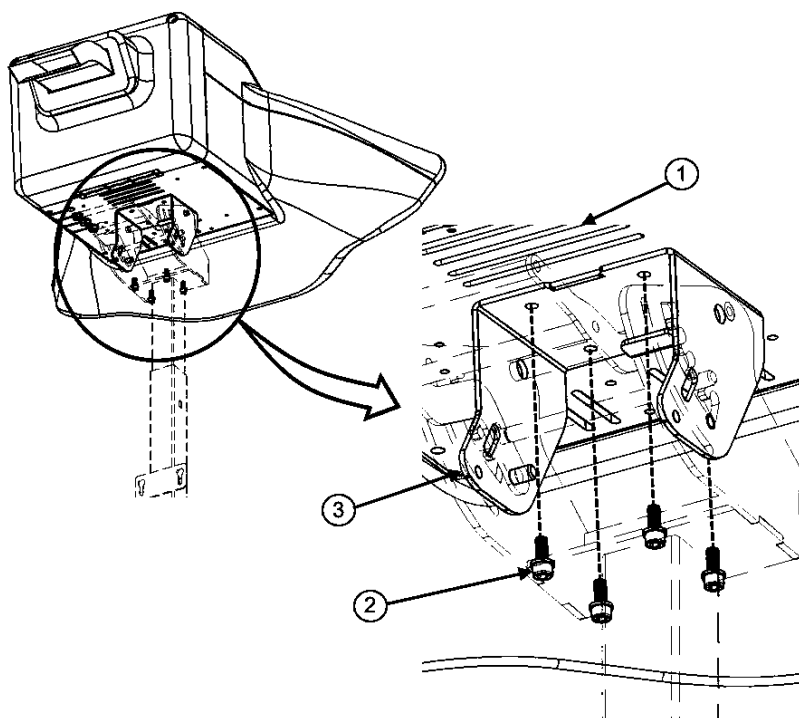

Figure 14 Dispenser Head Attachment
3. Install the **Dispenser Control Box** (Figure 14, 2) to the stand holder (3) by sliding the 2 Control Box extensions (1) into the slotted holes (4) of the stand holder and push the Control Box down.